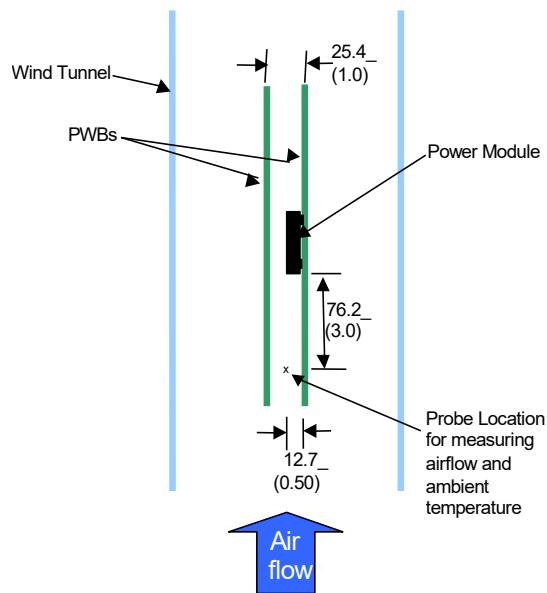

Figure 28. Thermal Test Setup.
Power modules operate in a variety of thermal environments; however, sufficient cooling should always be provided to help ensure reliable operation. Considerations include ambient temperature, airflow, module power dissipation, and the need for increased reliability. A reduction in the operating temperature of the module will result in an increase in reliability. The thermal data presented here is based on physical measurements taken in a wind tunnel. The test set-up is shown in Figure 28. The preferred airflow direction for cooling the module and the thermal reference points, Tref used in the specifications are shown in Figure 29. For reliable operation the temperatures at these points should not exceed 120°C (IC100) and 115°C (C102). The output power of the module should not exceed the rated power of the module ($V_{o,\text{set}} \times I_{o,\text{max}}$). Please refer to the Application Note "Thermal Characterization Process for Open-Frame Board-Mounted Power Modules" for a detailed discussion of thermal aspects including maximum device temperatures. Increased airflow over the module enhances the heat transfer via convection. The thermal derating of figures 2, 8, 14 and 20 show the maximum output current that can be delivered by each module in the indicated orientation without exceeding the maximum Tref temperature versus local ambient temperature (TA) for several air flow conditions. The thermal derating curves were generated using a 12 layer evaluation board with 3oz copper in inner layers and 2 oz in outer layers.